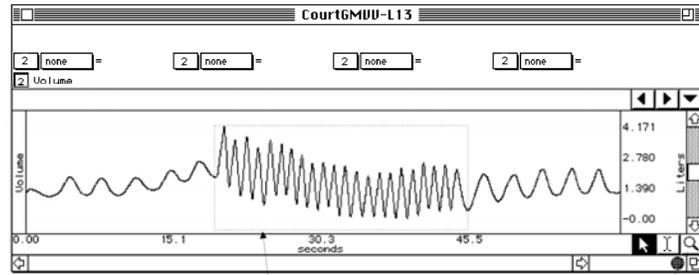

Fig. 13.21
- Use the **zoom** tool to set up your display window for optimal viewing of the deep, fast breathing segment of the recording (Fig. 13.21).